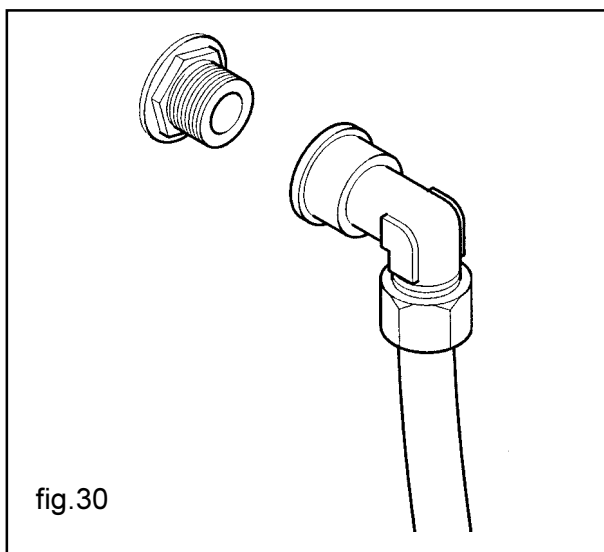

fig.30
- the anticipated connection is a 3/8 gas (Fig.30).